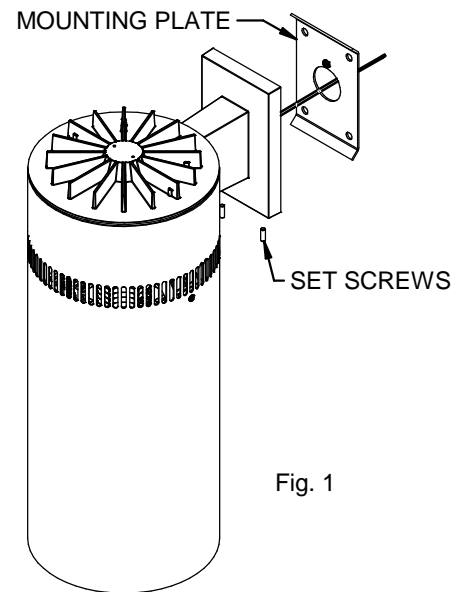

Fig. 1
1. Unpack the wall mount assembly from the carton. Remove the mounting plate from the wall bracket by loosening the two set screws with a 1/8" allen wrench (Fig. 1). Secure mounting plate to wall outlet box centrally located (Fig. 2). Use bolt size of 1/4" min to 3/8" max. If studs are used, they should protrude no more than 1/2" beyond wall surface.